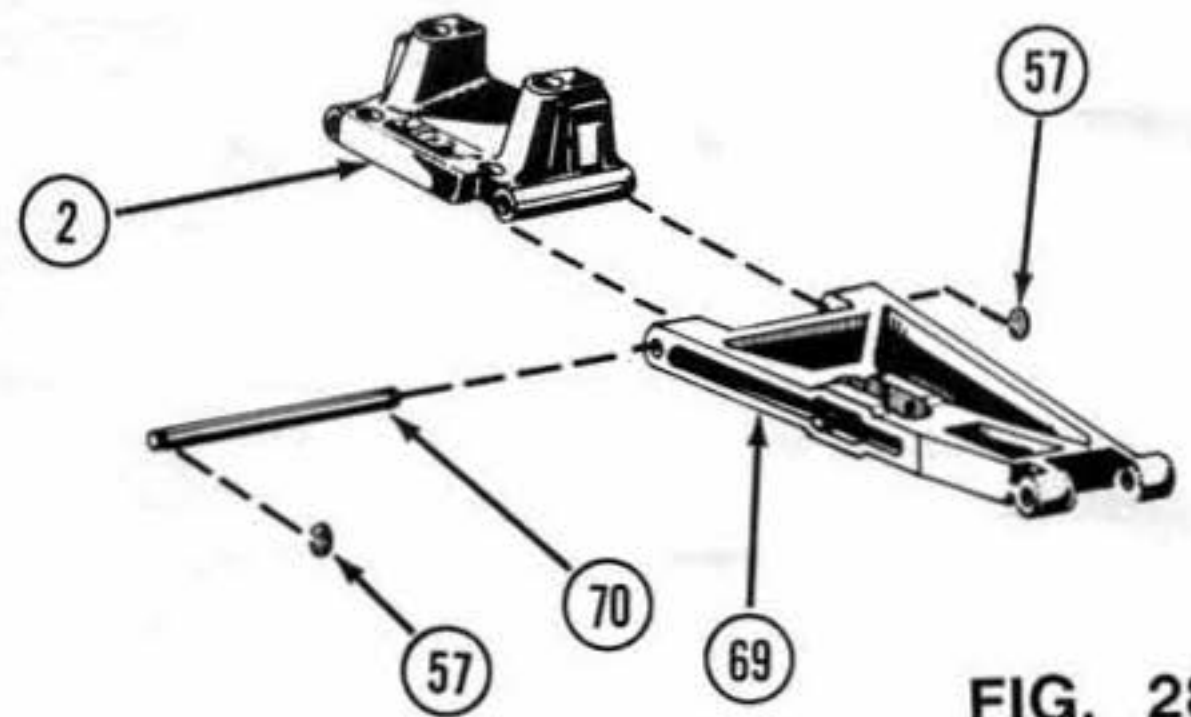

FIG. 28
6. Attach the A-arms (69) with the shock mountings forward to the front bulkhead (2) using the 1/8" X 1.650" hinge pin (70) as shown. Secure with two 1/8" E-clips (57). Fig.28